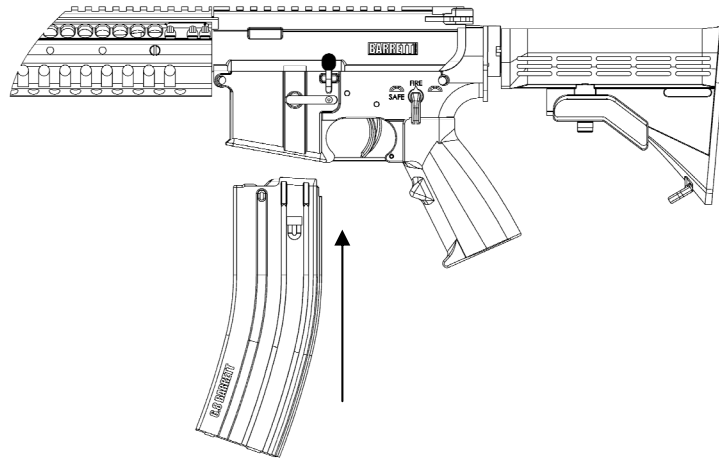

Figure 3.
1. Insert a loaded magazine fully into the magazine well. Insert the magazine until the magazine catch engages and holds the magazine. Tap the magazine upward to ensure the magazine is fully seated. (Figure 3).